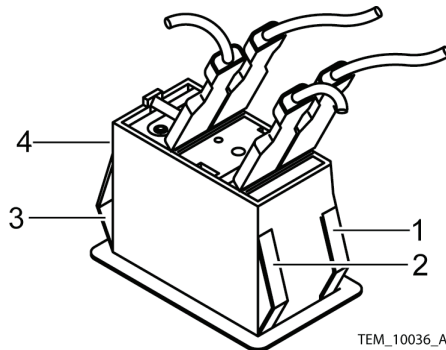

Figure 24. Power Switch Clips and Wires
10. Disconnect the four wires from the power switch. See Figure 24.
11. Depress the four clips on the power switch and push the power switch through its hole in the front cover assembly. See Figure 24.